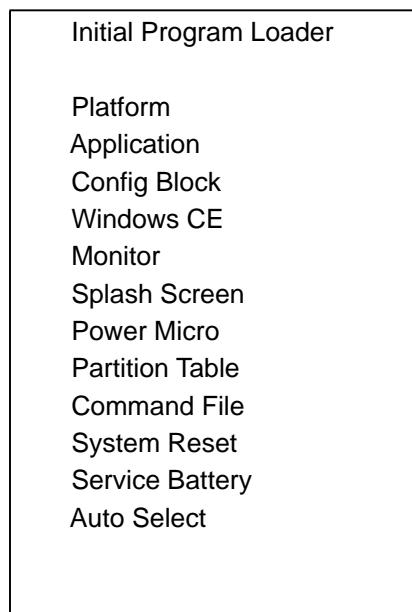

Figure 9-7 *Initial Program Loader (IPL) Menu*
20. To exit IPL, select the **System Reset** item from the IPL menu (see *Figure 9-7 on page 9-10*).